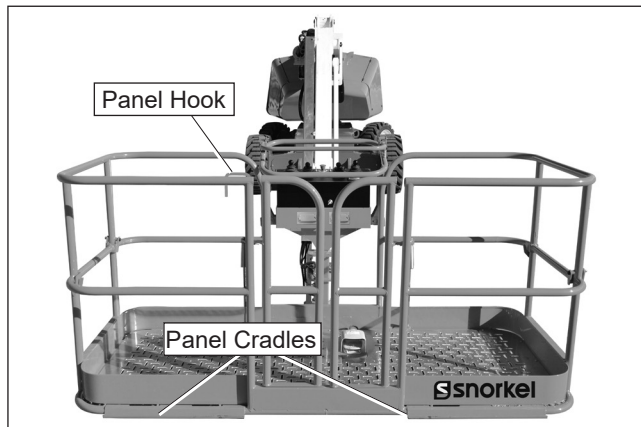

Figure 7.17 – Panel Carrier
- Inspect the cradles (refer to Figure 7.17) and the hook to make sure they are in good condition and are not bent or distorted.